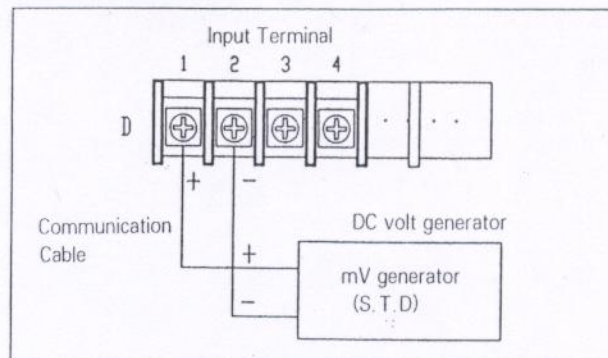

Fig 7.1
- 1) Connect as fig 7.1 using direct current and voltage generator (STD generator).